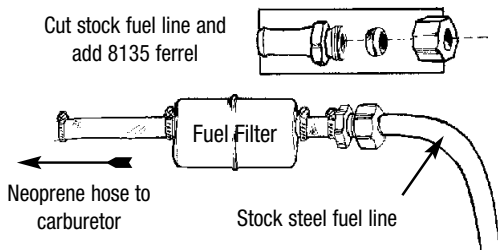

Figure 3 - Fuel Line Kit #8135 installed on stock steel fuel line
2. **The stock steel fuel line must be converted to fuel resistant rubber hose.** The stock steel line will not connect to the Performer Series Carburetor. Use Edelbrock Universal Fuel Line Kit #8135. This kit contains a filter, neoprene hose and fittings to adapt 5/16" and 3/8" stock fuel lines (**See Fig. 3**).